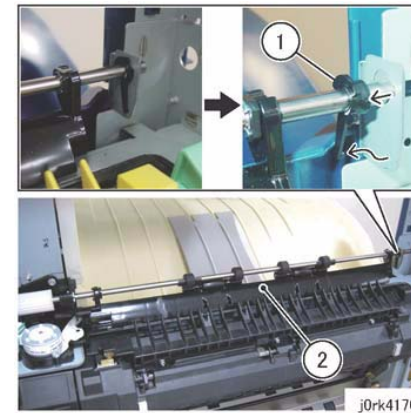

Figure 3 Exit/OCT 1 Assy Removal
5. Remove the Exit/OCT 1 Assembly. (Figure 3)